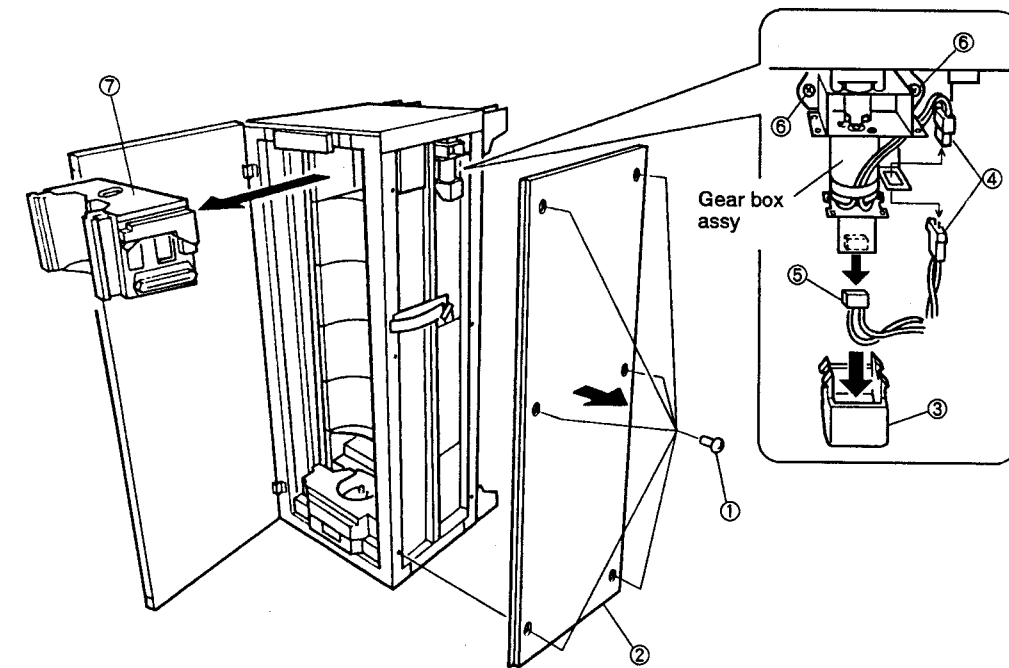

Fig.4 Disassembly the gear box assy (1)
• DISASSEMBLY THE GEAR BOX ASSY (Fig. 4 and 5)
1. Open the door, remove the six screws ① and detach the side plate R ②.
2. Detach the motor cover ③ and connectors ④ and ⑤.
3. Loosen the two screws ⑥ and remove the uppermost disc magazine ⑦.
4. Slide the gear box to the front and pull the timing belts ⑨ off VD pulley A ⑩.
5. Remove the gear box spring ⑧.
6. Remove two screws ⑥ and remove the gear box assy.